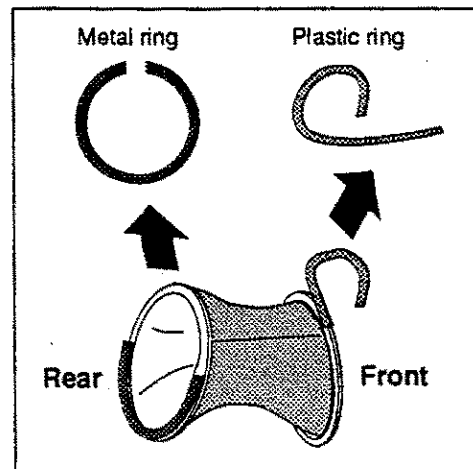

Figure 5-6. Arm cuff cover (6/6)
- 4 Remove the metal and plastic rings from the cover. There are holes in the cover for the removal of the rings. (See Figure 5-6.)